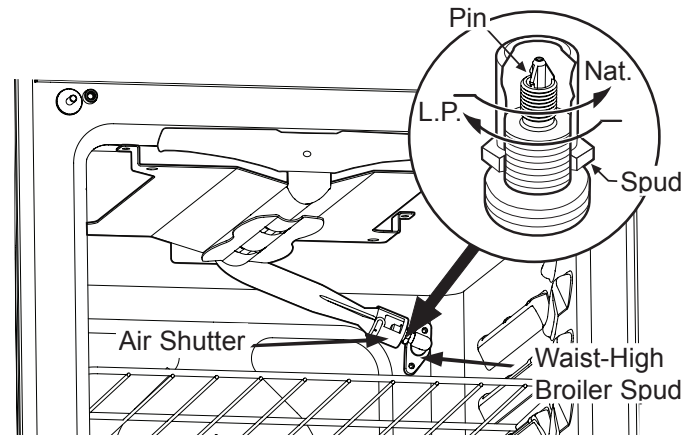

Figure 12
C. Adjust Broiler Burner Orifice (Self-Cleaning Models Only) (see figure 12)